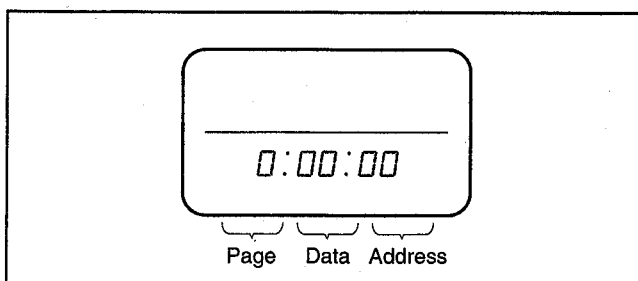

Fig. 5-2-1.
- 3) Turn on the power with the ON/STANDBY switch of the unit. If it has been properly connected, the LCD on the adjusting remote commander will display as shown in Fig. 5-2-1.